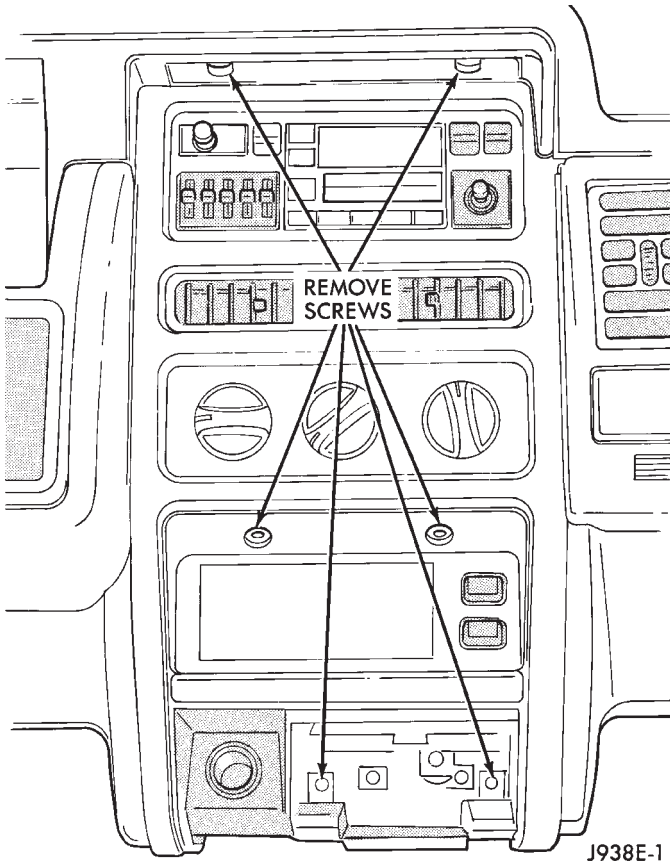

Fig. 5 Remove Center Bezel Upper Screws
- (1) Disconnect negative cable from the battery.
- (2) Remove ash tray.
- (3) Remove 6 screws holding center cluster bezel (Fig. 5).